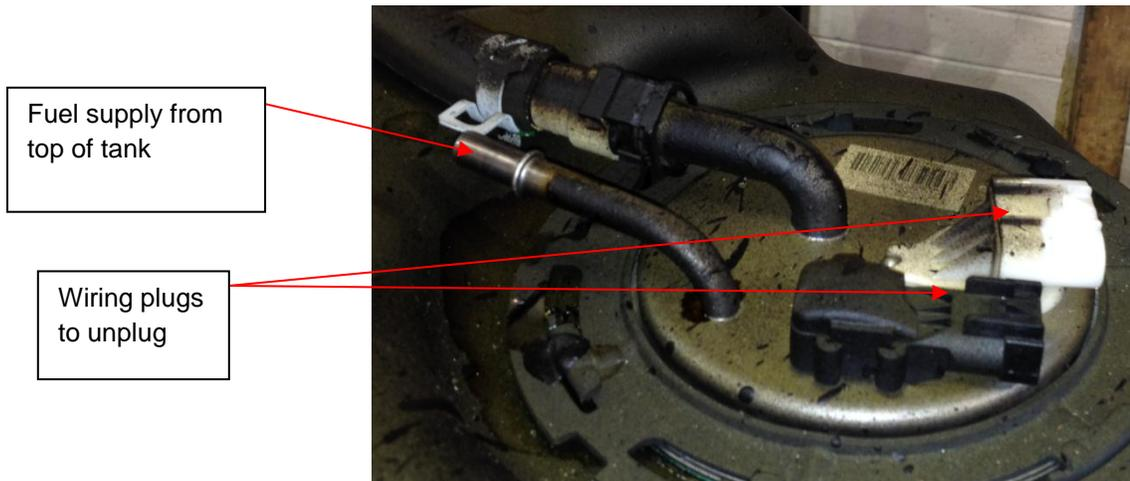

Figure 2
- 7) Place cart under fuel tank to support tank after releasing it. Tank will need to be lowered enough to unplug two electrical plugs on sending unit and a fuel hose in that location, as well as the fuel hose at front of tank. (Figure 2)
- 9) Lower tank down several inches. Unplug two harnesses from fuel sending unit located on top of tank. (**Figure 2**)
- 10) Disconnect fuel line located beside the two plugs. (**Figure 2**)